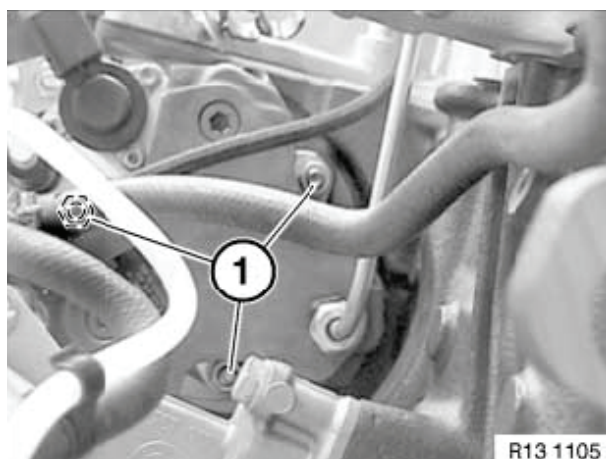

Figure 6-25
14. Remove three nuts (**Figure 6-25, (1)**).